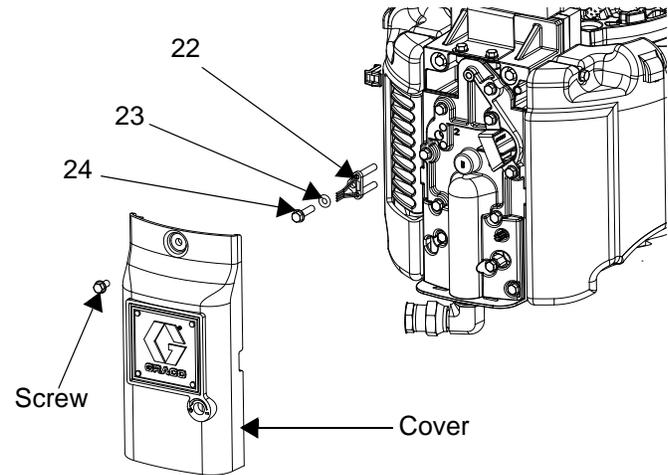

FIG. 58: Install Reed Switch Sensor
- i. Remove the screw on the valve cover to remove the cover. See FIG. 58.
- j. Install the reed switch sensor (22). Secure with the 1 in. (25 mm) screw (24) and o-ring (23) provided. See FIG. 58.
vided. See FIG. 58.
- m. Reinstall the valve cover, and tighten the nut. See FIG. 58.